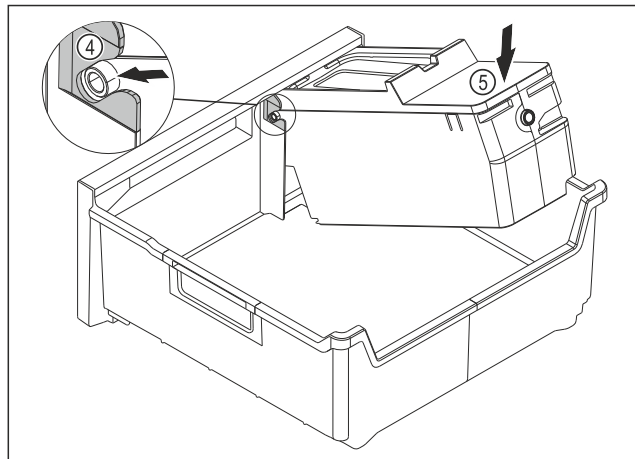

Fig. 114
- ▶ Installing the EasyTwist-Ice body: Push the axes for the EasyTwist-Ice body into the guides Fig. 114 (4).
- ▶ Press the EasyTwist-Ice body Fig. 114 (5) down at the back.